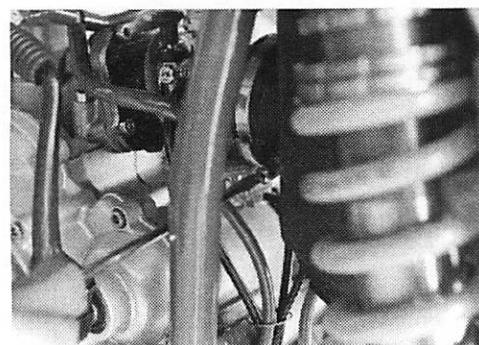

Figure 4.13
2. Loosen the air filter hose clamp located at the rear of the carburetor. (Figure 4.13)